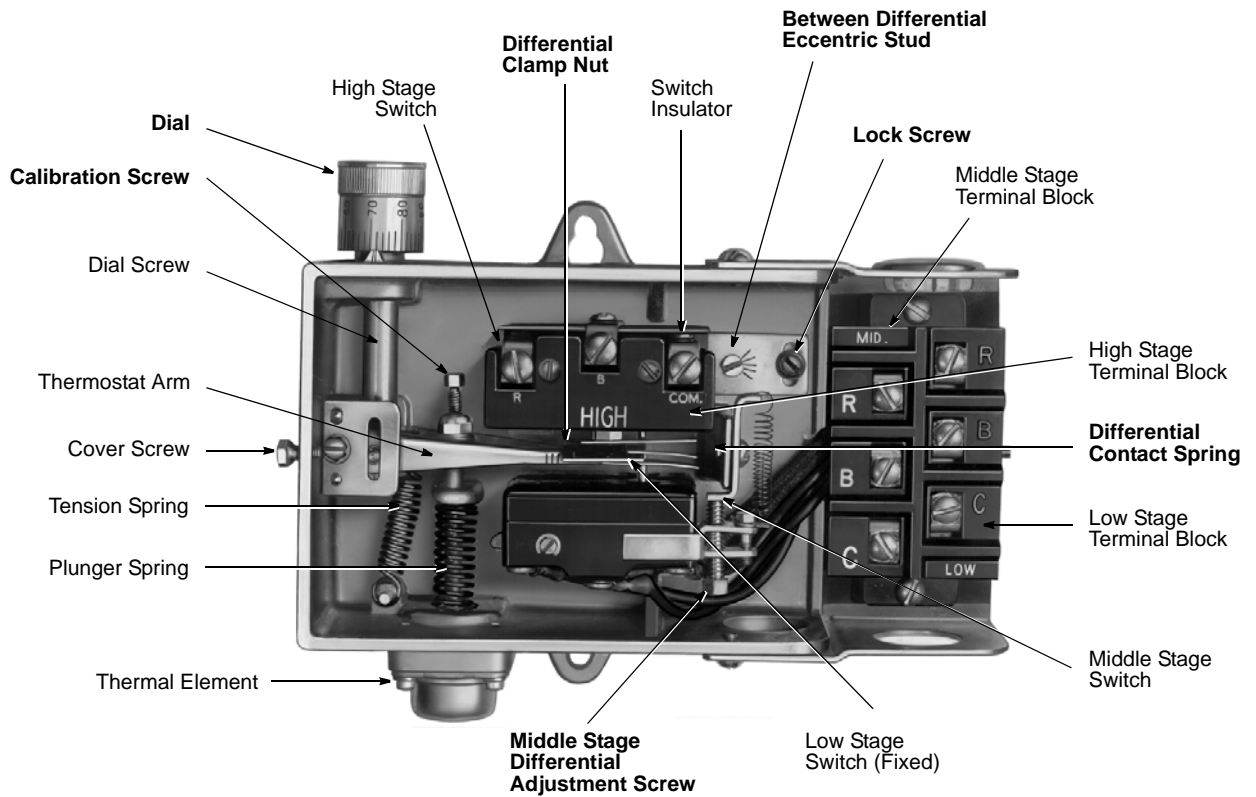

Figure-15 Part Identification of Three Stage Thermostats.
The differential between the “R” and “B” contacts of the SPDT switches is easily adjusted by moving the contact spring on the thermostat arm (see Figure-15). The differential may be varied by loosening the clamp nut and sliding the contact spring to the left to increase the differential of all three switches (or to the right to decrease the differential). This varies the tension brought to bear on the switch trip pins and adjusts the differential between 2°F and 7°F ($\pm 0.5^\circ\text{F}$). Factory set at minimum. Each division represents approximately 1°F. This adjustment may have some effect on the differential between stages and therefore should be the first adjustment made in resetting the differential of the controls.
The differential between the low stage and middle stages is easily adjusted by turning the middle stage adjustment screw (see Figure-15) CW to decrease differential and CCW to increase differential. Factory set at 3°F. The differential between high and middle stages is easily adjusted by loosening the lock screw and rotating the eccentric stud (see Figure-15), physically changing the distance between the trip pins of the high and middle stage switches. Turning this eccentric stud CW decreases differential and turning CCW increases differential. The total differential available between the low and high stages is adjustable between 0°F and 20°F. The differential between the low, middle, and high stages can be varied but the total may never exceed 20°F. For example, if the differential between the low and middle stage is set at 12, then 8°F is the maximum differential that can be obtained between the middle and high stages.
3. Turn calibration screw (see Figure-15) until the low stage switch actuating points (indicated by the dial) straddle the bulb temperature. For example, if bulb temperature is 70°F, turn calibrating screw until low stage switch actuating points (clicks) are an equal number of degrees from 70°F, namely 68°F and 72°F.